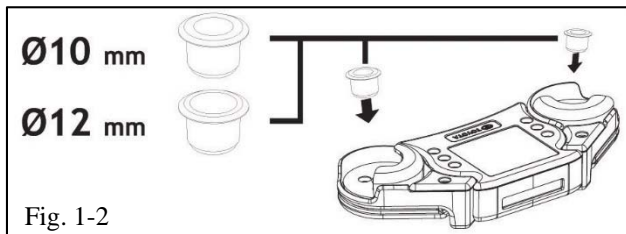

Fig. 1-2
- (c) If the head rest strut diameter is less than 14mm, insert the matching 12mm or 10mm inserts on both posts (Fig. 1-2).